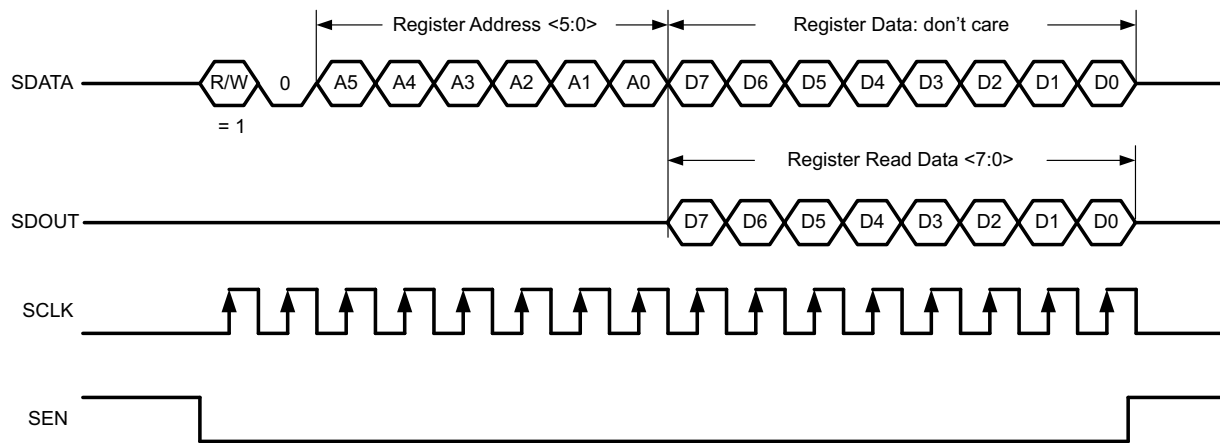
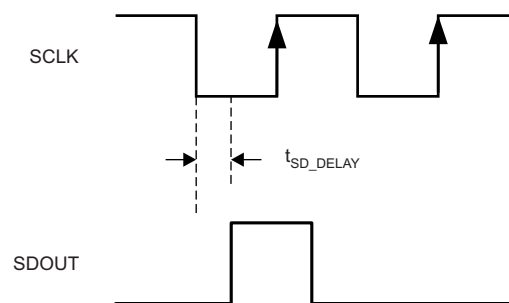

图 51. Serial Register Readout Timing Diagram
图 52. SDOUT Timing Diagram
2. Write the register address on bits A5 through A0 whose contents must be read. See 图 51.
When serial registers are enabled for writing (when bit A7 of the 8-bit address bus is '0'), the SDOUT pin is in a high-impedance mode. If serial readout is not used, the SDOUT pin must float. 图 51 shows a timing diagram of this readout mode. SDOUT comes out at the SCLK falling edge with an approximate delay (t_{SD_DELAY}) of 20 ns, as shown in 图 52.